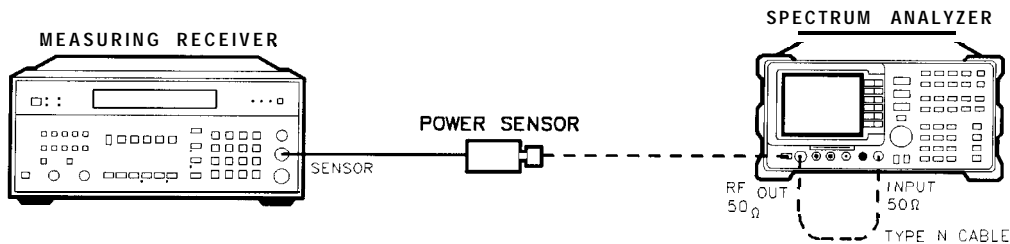

Figure 2-91. Tracking Generator Level Flatness Test Setup
1. Connect the Type N cable between the RF OUT 50  $\Omega$  and INPUT 50  $\Omega$  connectors on the spectrum analyzer. See Figure 2-91.